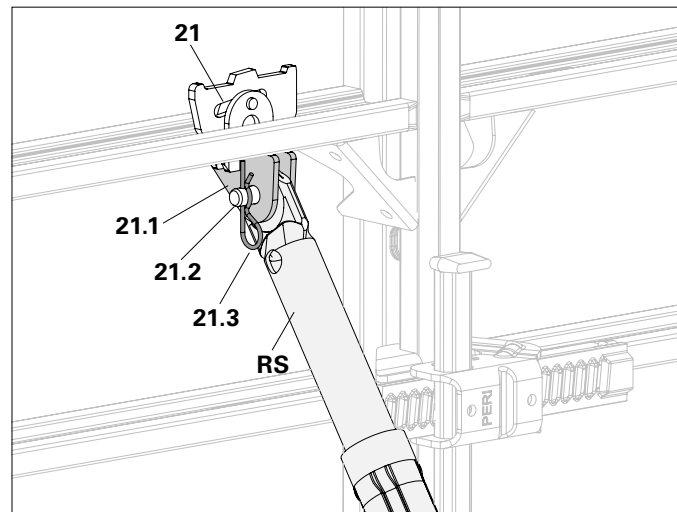

Fig. A6.02
Installation of the brace connector is only possible horizontally. Connect Push-Pull Prop (RS) and connection lugs (21.1) with bolts (21.2) and cotter pins (21.3). (Fig. A6.02)